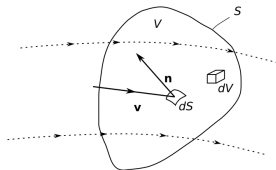

Figure 2: Fixed finite control volume.
- We now derive the continuity equation for an the arbitrary fixed finite control volume in figure 2 having volume V enclosed by a control surface S . Consider a point on the control surface with flow velocity \mathbf{v} and elemental surface area dS . Let dV be an elemental volume inside the finite control volume.